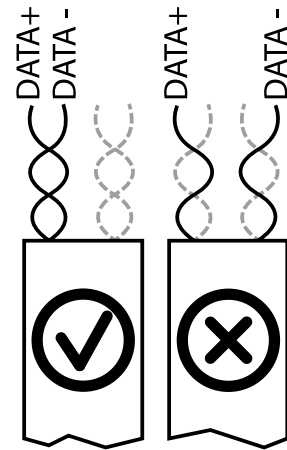

Figure 20: RS485 bus: Assignment of twisted-pair wires
- Observe the wire pairing when connecting DATA+ and DATA- (see Figure 20 on page 30)